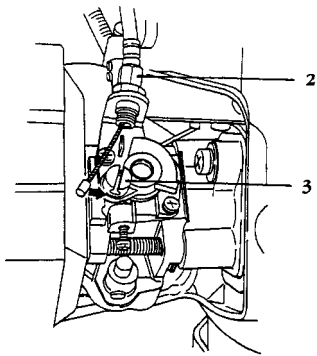

FIG. 7
a. (FIG. 7) Slide the throttle wire through the cable adjuster (2). Line up the "slotted" swivel (3) with the wire, making sure the hole for the wire end is opposite the cable adjuster. (See arrow.)